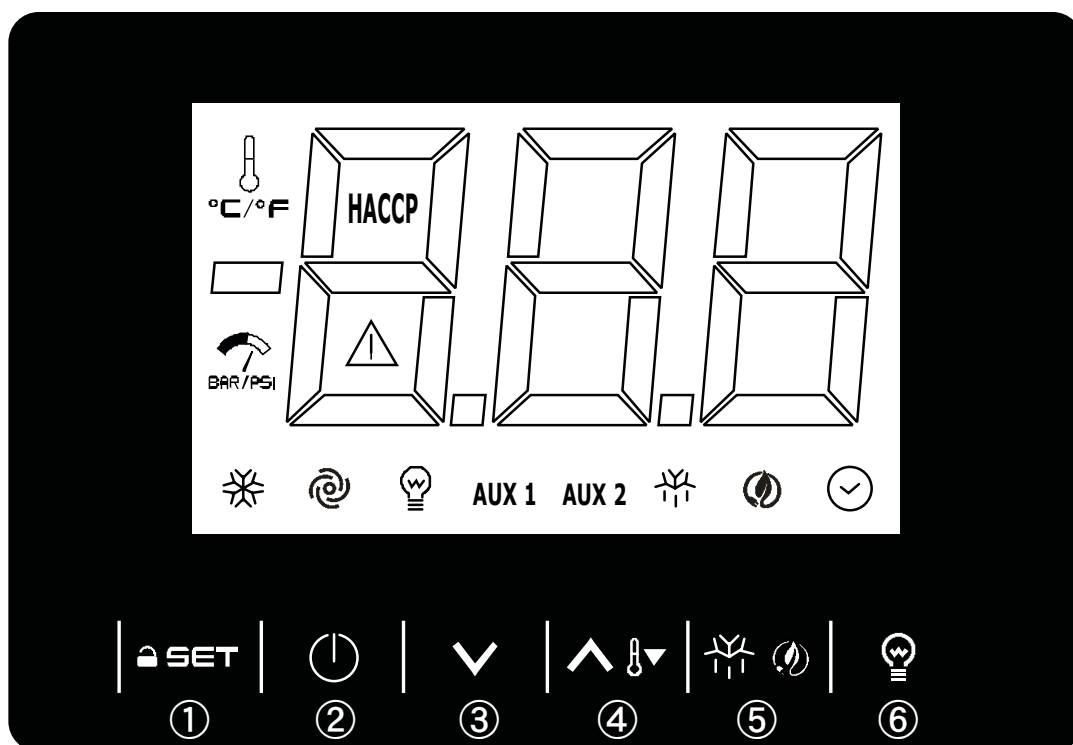

Fig.3
9.1 Description of the controls and buttons (Fig. 3)
**Start-up sequence (fig.3).**
**9.2.2 Stopping methods (fig.3)**
▶ press the on-off button (1) for 5 seconds	the display and the cabinet will turn off
**9.2.3 adjustment of the internal clock to the current time (fig. 3)**
9.2.4 Setting the temperature (Fig. 3)
9.2.5 Automatic and manual defrost (Fig. 3)
9.2.6 Keypad lock (fig.3)
9.2.7 Turning the light on / off (fig. 3)